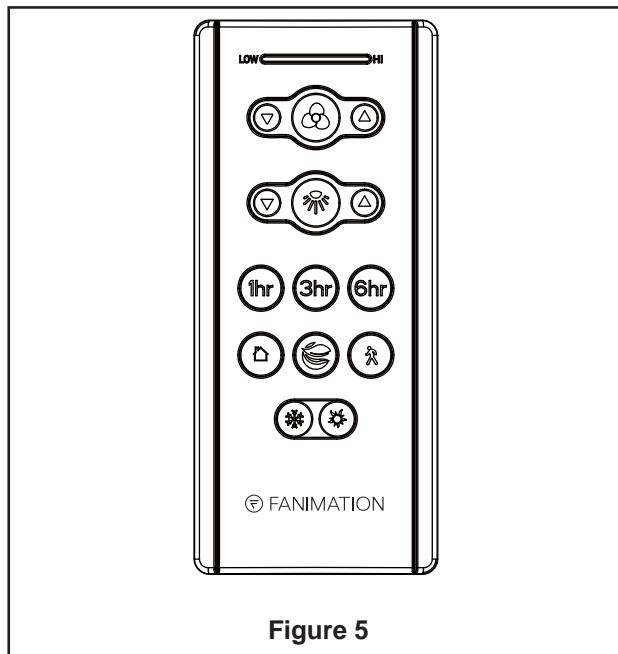

Figure 5
- 5.** Assemble the glass to the light plate assembly by twisting in a clockwise direction. Do not overtighten. (Figure 5)
5. Remote functions: (Figure 5)